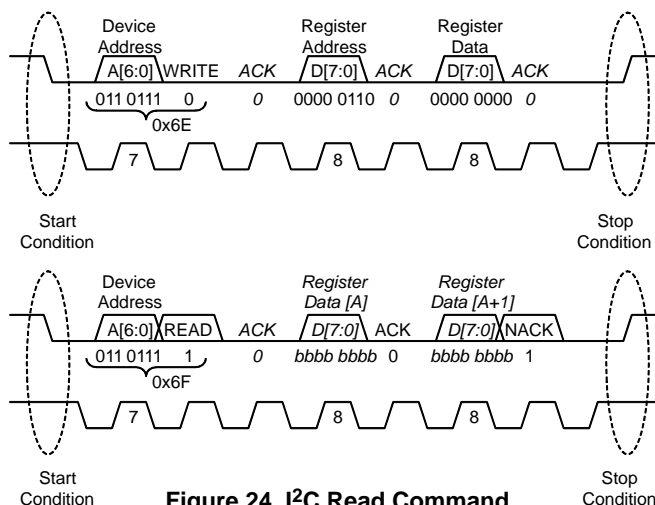

Figure 24. I²C Read Command
Figure 24 shows an I²C read command sent by the master to the slave device. Read transactions begin in much the same manner as the write transactions in that the slave address must be sent with a write(0) command bit.